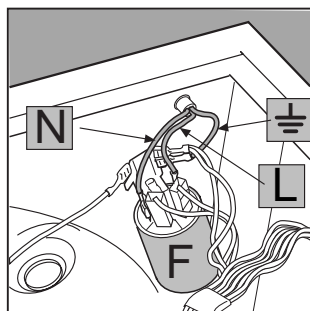

Fig. 4
3. Disconnect the wires from the radio interference suppressor **F** [fig. 4] noting as to their position (**Blue=N** wire; **Brown=L** wire) leaving the earth wire until last \perp .